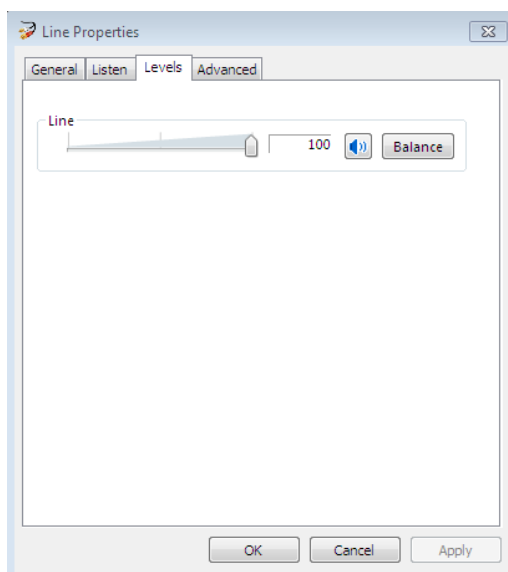
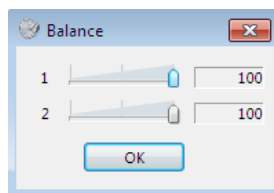

Figure 4.5 //Recording level settings
Figure 4.6 //Balance window
In the Properties window (Figure 4.5), on the Levels tab, it is necessary to set maximum volume level and centered balance by clicking on the Balance button and setting maximum value (100) for both channels (Figure 4.6).
DasyLAB does not require any additional drivers to work with the AVA 2001 module – it is visible right after launching the software. To perform measurements in the DasyLAB software, connect the AVA 2000 module to the computer, select the maximum recording volume level (Figure 4.5), and run the DasyLAB software.